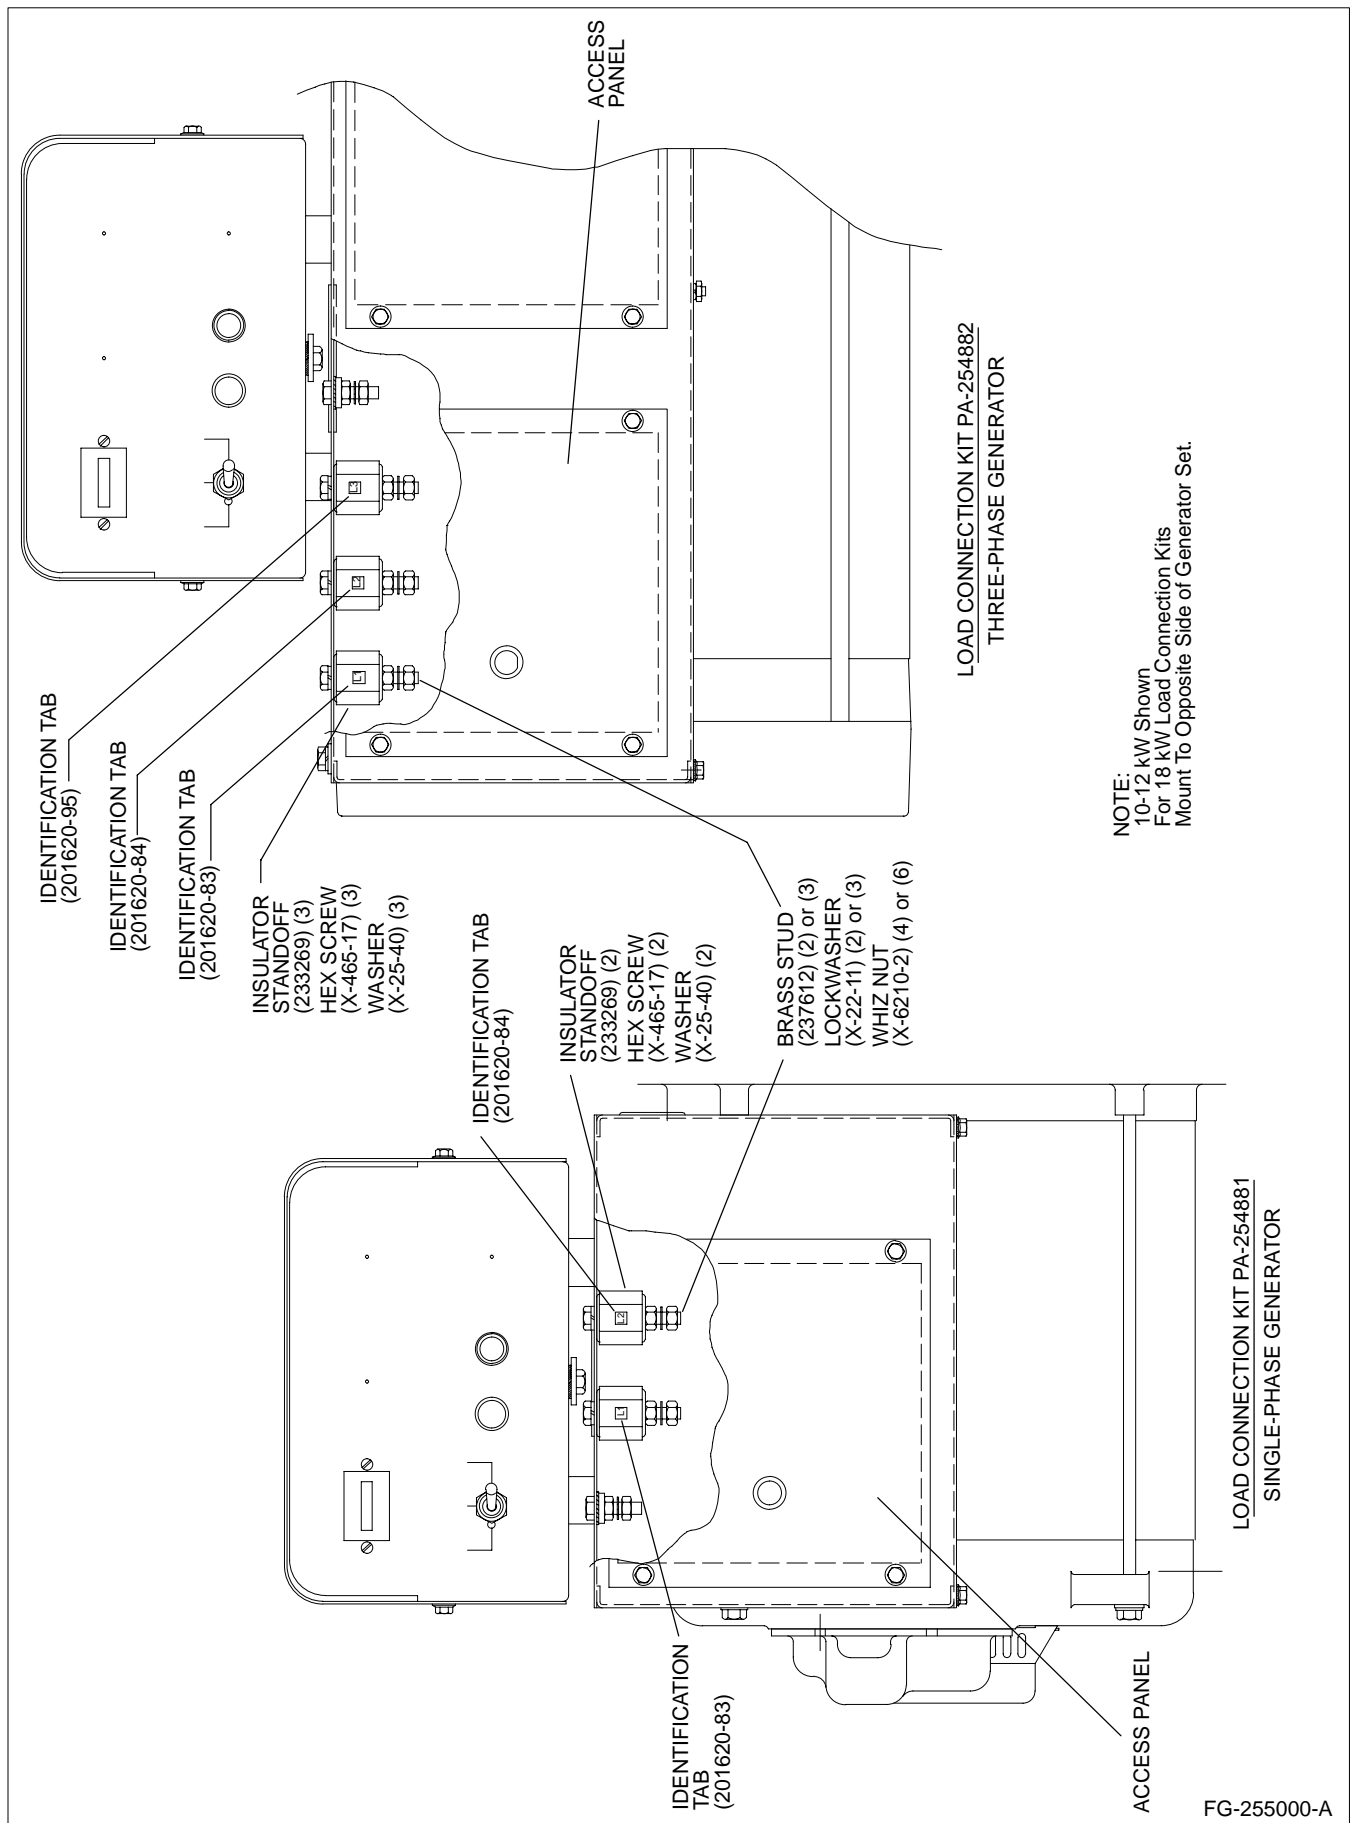

Figure 1. Load Connect Kit
3. Install insulator standoff (233269) on junction box housing with 0.281 x 0.625 x 0.065-in. plain washer (X-25-40) and 1/4-20 x 0.375-in. hex screw (X-465-17), see Figure 1.